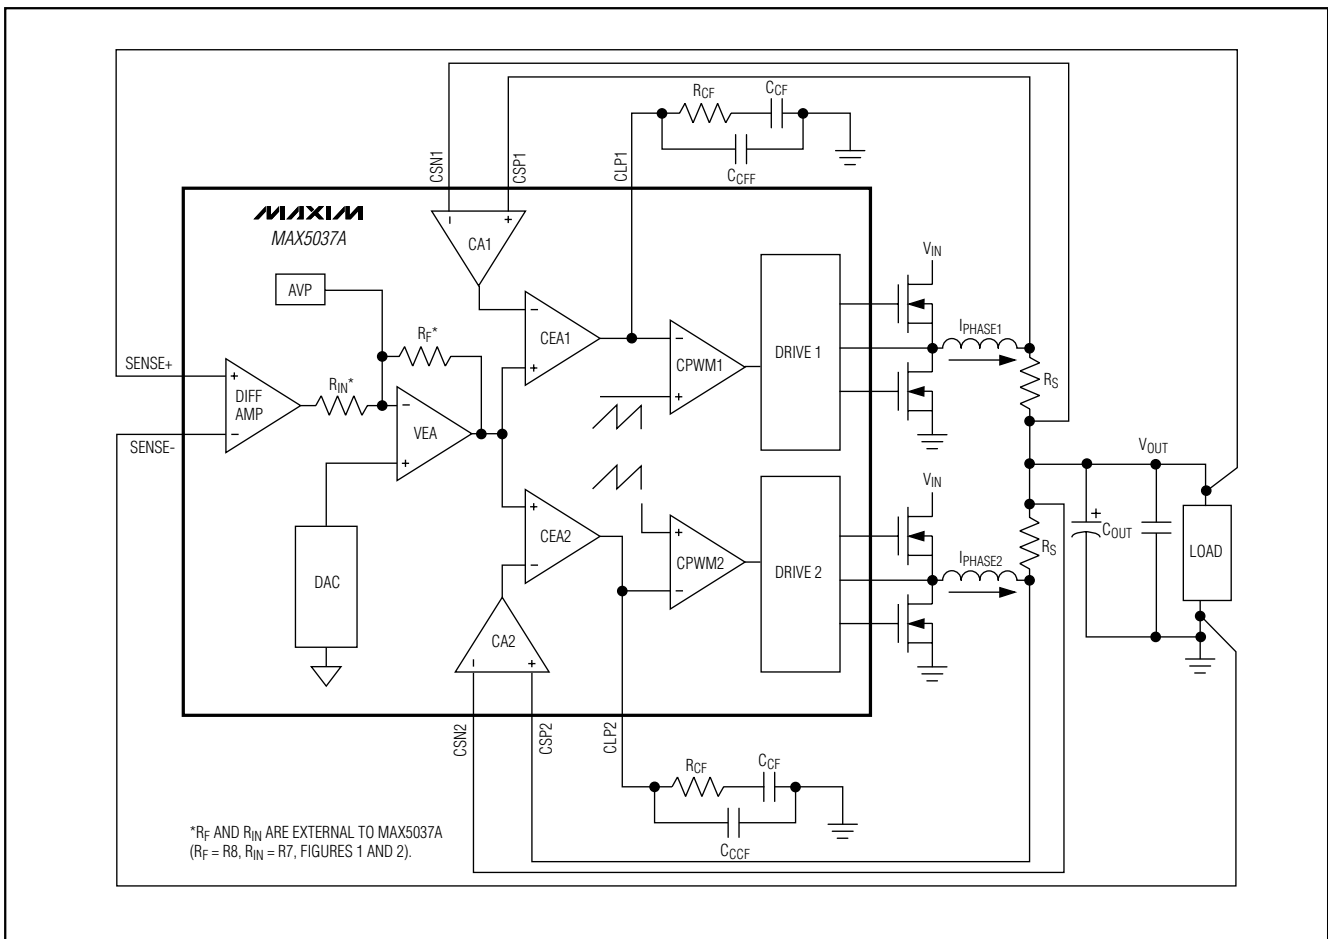

Figure 3. MAX5037A Control Loop
The MAX5037A uses an average-current-mode control scheme to regulate the output voltage (Figure 3). The main control loop consists of an inner current loop and an outer voltage loop. The inner loop controls the output currents (I_{PHASE1} and I_{PHASE2}), while the outer loop controls the output voltage. The inner current loop absorbs the inductor pole reducing the order of the outer voltage loop to that of a single-pole system.
The outer voltage control loop consists of the differential amplifier (DIFF AMP), adaptive voltage-positioning (AVP) block, digital-to-analog converter (DAC), and voltage-error amplifier (VEA). The unity-gain differential amplifier provides true differential remote sensing of the output voltage. The differential amplifier output and the AVP connect to the inverting input (EAN) of the VEA. The noninverting input of VEA is internally connected to the DAC output. The VEA controls the two inner current loops (Figure 3). Use a resistive feedback network to set the gain of the VEA as required by the adaptive voltage-positioning circuit.
Each phase of the MAX5037A has a dedicated transconductance current-error amplifier (CEA₋) with a typical g_m of 550 μ S and 320 μ A output sink and source current capability. The CEA₋ outputs, CLP1 and CLP2, serve as the inverting input to the PWM comparator. CLP1 and CLP2 are externally accessible to provide frequency compensation for the inner current loops (Figure 3). Compensate CEA₋ such that the inductor
The unity-gain differential amplifier (DIFF AMP) facilitates the output voltage remote sensing at the load (Figure 3). It provides true differential output voltage sensing while rejecting the common-mode voltage errors due to high-current ground paths. Sensing the output voltage directly at the load provides accurate load voltage sensing in high-current environments. The VEA provides the difference between the differential amplifier output (DIFF) and the desired VID programmed output voltage. The difference between SENSE+ and SENSE- regulates to the programmed VID output voltage. The differential amplifier has a unity-gain bandwidth of 3MHz. The difference between SENSE+ and SENSE- regulates to the programmed VID output voltage.
The VEA output clamps to 0.9V relative to V_{CM} (0.6V), thus limiting the average maximum current from individual phases. The maximum average current-limit threshold for each phase is equal to the maximum clamp voltage of the VEA divided by the gain (18) of the current-sense amplifier. This results in accurate settings for the average maximum current for each phase. Set the VEA gain using R_F and R_{IN} for the amount of output voltage positioning required within the rated current range as discussed in the *Adaptive Voltage Positioning* section (Figure 3).